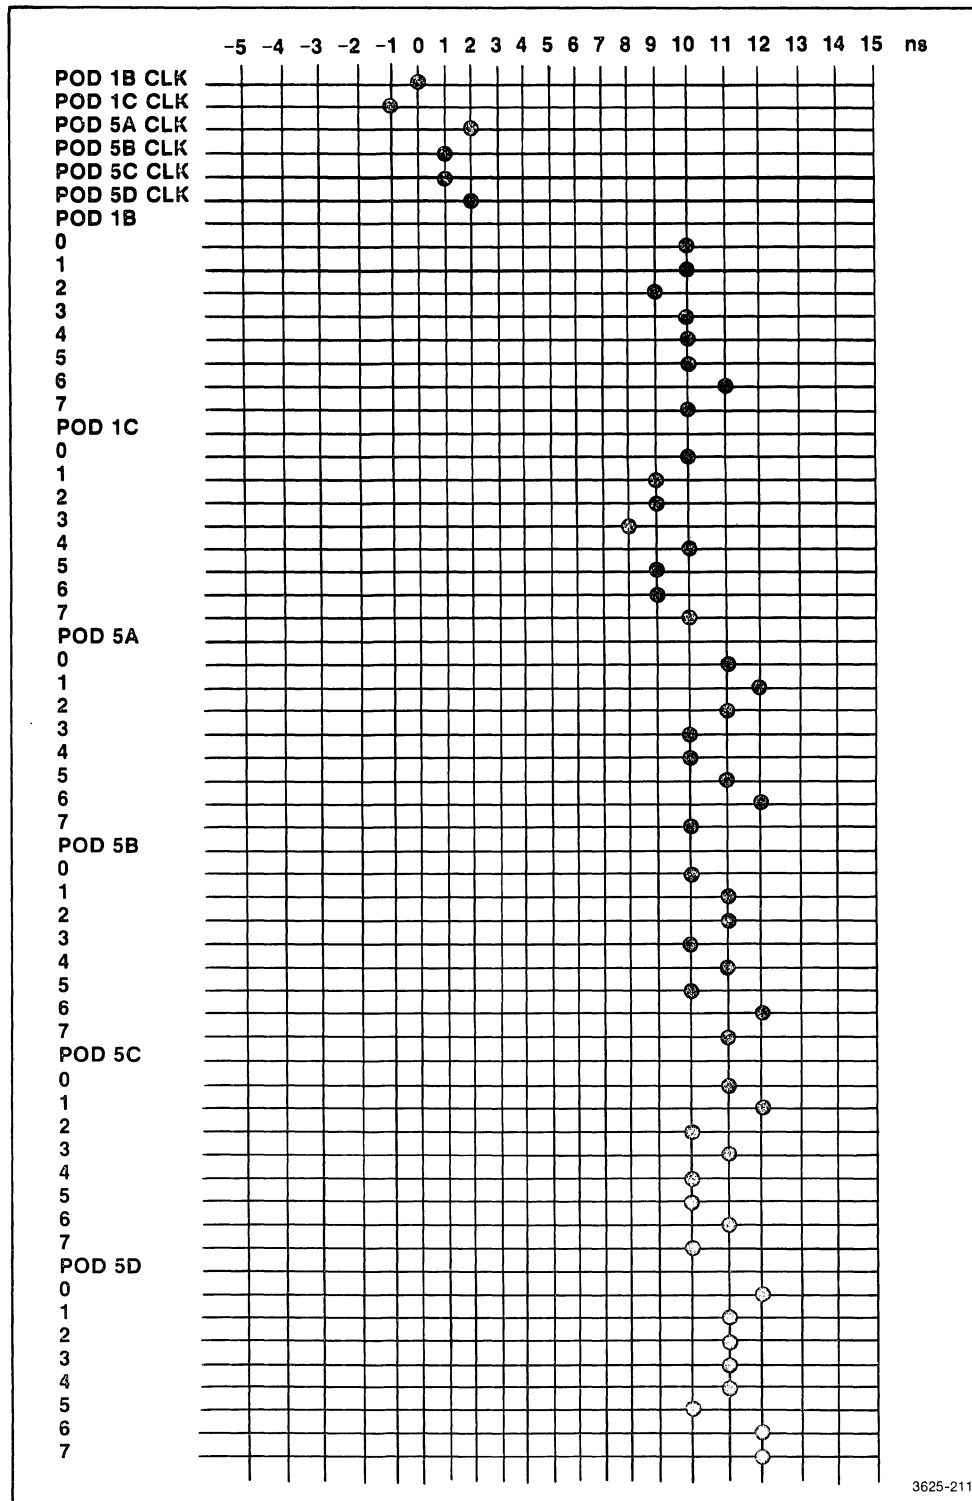

Figure 5-84. Example of data-clock timing format.
4. Use channel 2 of the oscilloscope to examine the data 1 through data 7 lines of probe 1B. Record the difference between the clock and the data rising edges for each of the data lines. The data record should now be formatted like Figure 5-84.
(7) Calculations for the Data Channel Skew Verification